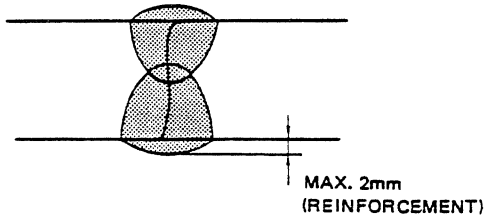

Figure 4-6. Melt-thru into Crack
- (d) Build up weld to height of approx. 2mm as shown in Figure 4-6.